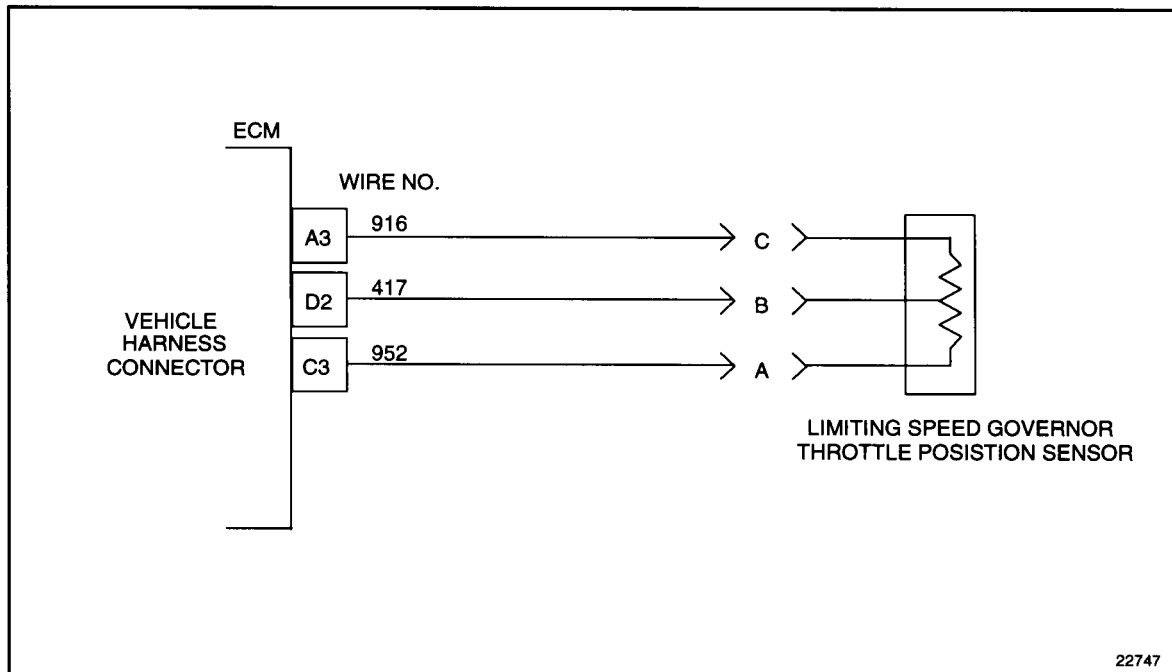

Figure 22-6 Throttle Position Sensor
2. Measure resistance between sockets A3 and C3 on the vehicle harness connector. See Figure 22-6.